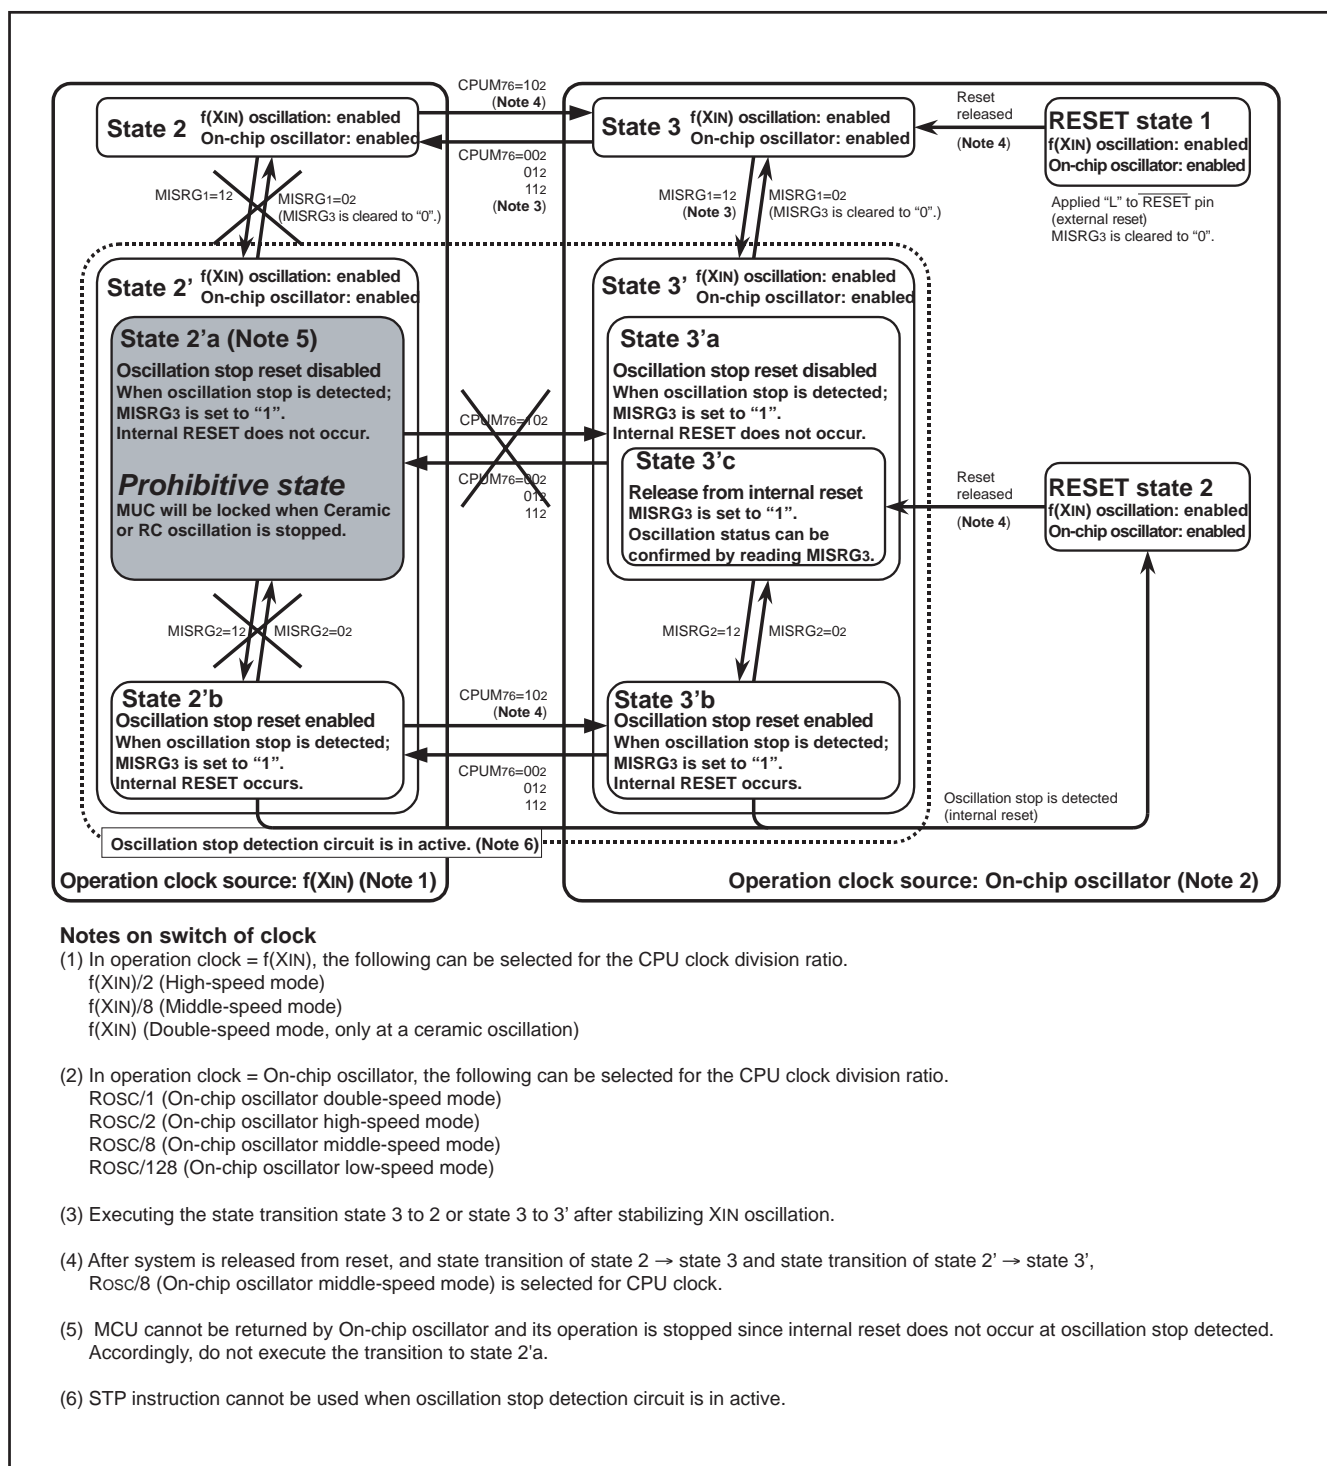

Fig. 86 State transition 2
- (1) Do not execute the transition to "state 2'a" shown in Figure 86 State transition of oscillation stop detection circuit. In this state, no reset is triggered and the MCU is stopped even when the XIN oscillation is stopped.
- (2) After an oscillation stop detection reset, if this reset is enabled while bits Ceramic or RC oscillation stop detection function active and oscillation stop detection status are retained, a reset is triggered again.
- (3) The oscillation stop detection status bit is initialized under the following conditions:
- (4) While the oscillation stop detection function is in active, the oscillation stop detection status bit may set to 1 when the watchdog timer underflow.